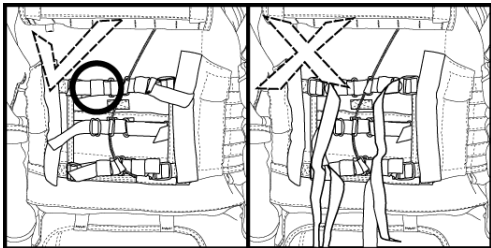

Figure 9. Webbing Properly Stowed.
- j. Ensure all excess webbing is secured in the webbing retainer bands (Figure 9).